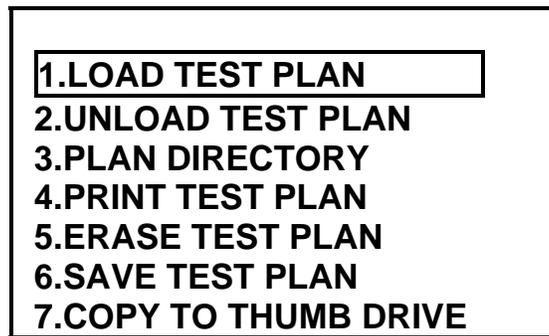

Figure 81.0 Test Plan With Thumb Drive Menu
- b. **Origin:** This menu is displayed after the operator selects menu option 7 (“Copy To Thumb Drive”) from the “Test Plan With Thumb Drive Menu” (Figure 81.0).
- b. **Origin:** This menu is displayed after the operator selects menu option 1 (“Load Test Plan”) from the “Test Plan With Thumb Drive Menu” (Figure 81.0).
- b. **Origin:** This menu is displayed after the operator selects menu option 3 (“Plan Directory”) from the “Test Plan With Thumb Drive Menu” (Figure 81.0).
- b. **Origin:** This menu is displayed after the operator selects menu 4 (“Print Test Plan”) from the “Test Plan With Thumb Drive Menu” (Figure 81.0).
- b. **Origin:** This menu is displayed after the operator selects menu option 5 (“Erase Test Plan”) from the “Test Plan With Thumb Drive Menu” (Figure 81.0).
- b. **Origin:** This menu is displayed after the operator selects menu option 6 (“Save Test Plan”) from the “Test Plan With Thumb Drive Menu” (Figure 81.0).